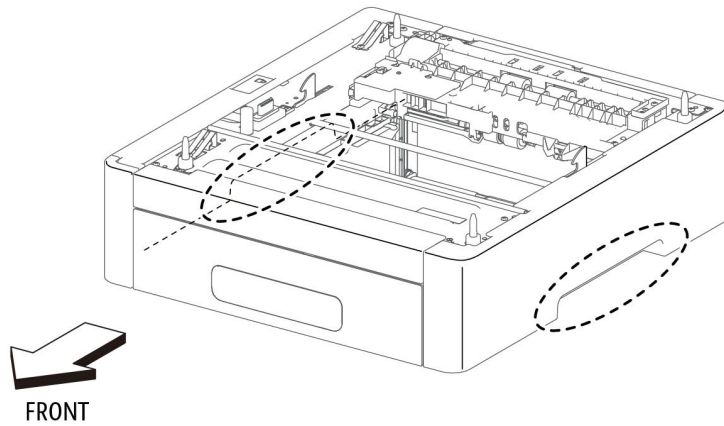

Figure 1 Locations to Hold the 550 Option Feeder
3. Refer to **Figure 1** for locations to hold the 550 Option Feeder Assembly, then turn over the feeder.